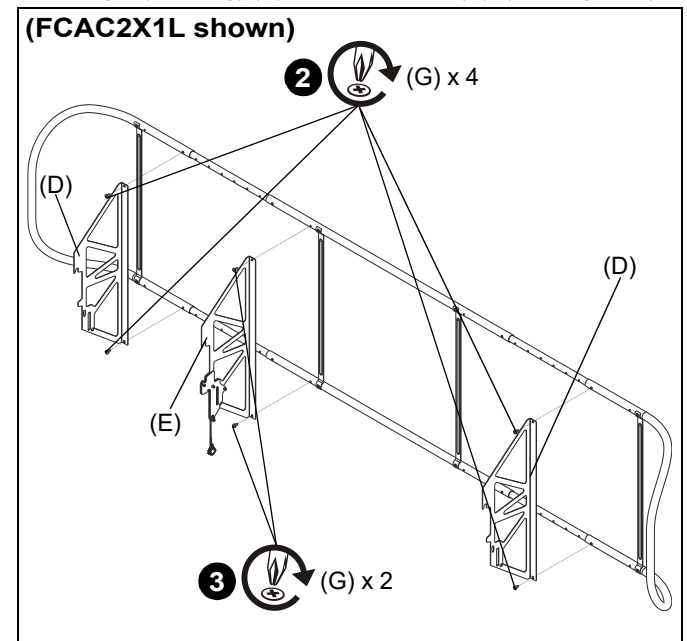

Figure 7
2. Use four #12-24 x 3/8" Phillips tapping screws (G) to secure two uprights (without flags) (D) to outside frames (C). (See Figure 7)
NOTE: Example shown (See Figure 7) is to assemble a maximum length frame. Frame can be made shorter and must be shorter for FCAC2X1M.
3. Use two #12-24 x 3/8" Phillips tapping screws (G) to secure upright (with flag) (E) to center frame (B). (See Figure 7)